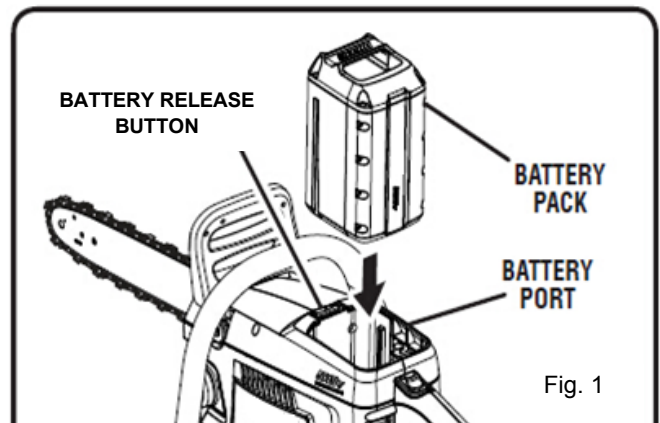

Fig. 1
- Align grooves on battery pack with raised ribs in the tool's battery port and place the battery pack in the tool. (Fig. 1)